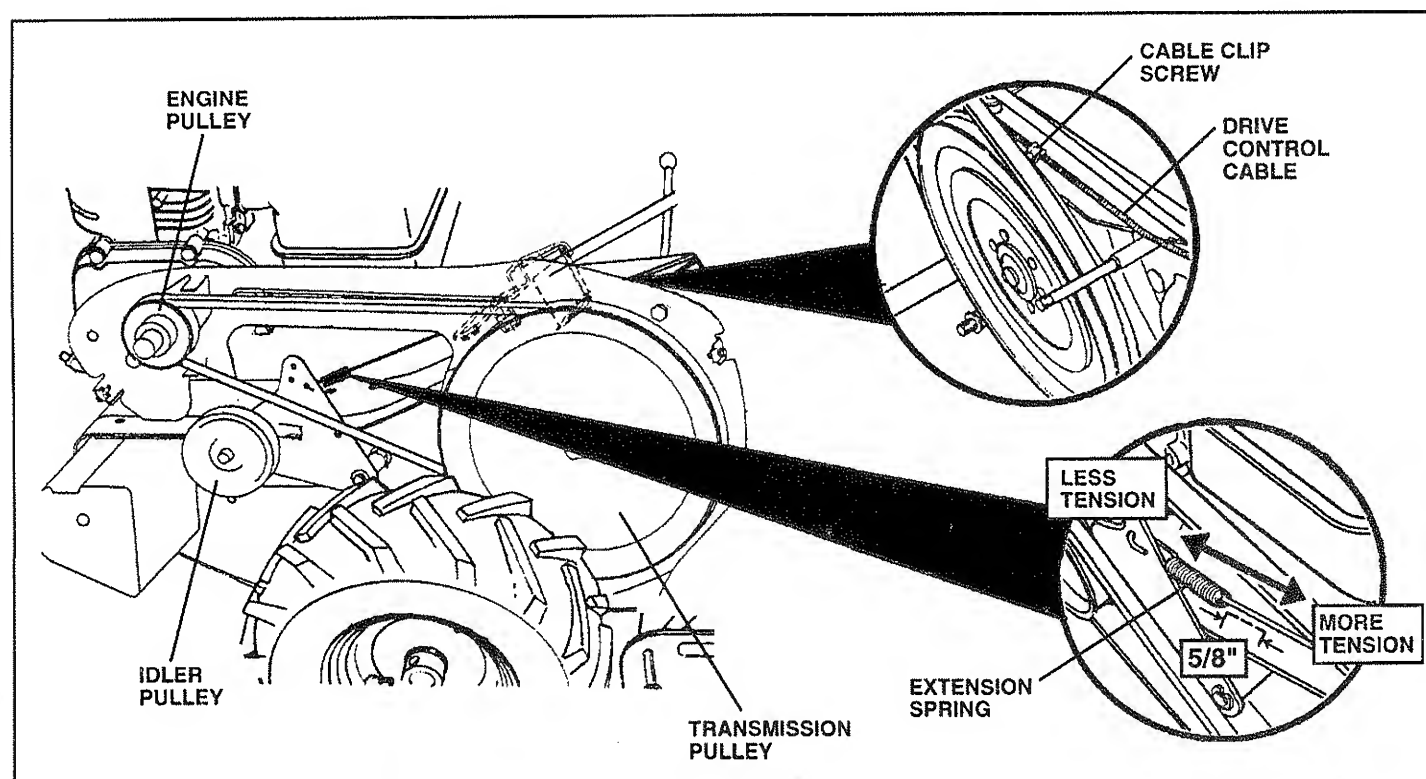

FIG. 28
- New tines should be assembled as shown in Fig. 28. Sharpened tine edges will rotate rearward from above.